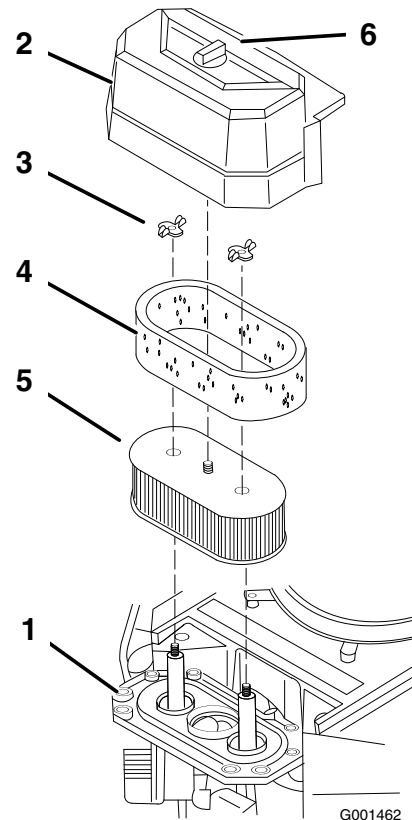

Figure 23
3. Clean around the air cleaner to prevent dirt from getting into the engine and causing damage (Figure 23).
4. Unscrew the cover knob and remove the air cleaner cover (Figure 23).
5. Remove the 2 wing nuts and remove the air cleaner assembly (Figure 23).
6. Carefully pull the foam element off the paper element (Figure 23).
1. Do not clean the paper filter. Replace it after 200 operating hours (Figure 23).
1. Carefully slide the foam element onto the paper air cleaner element (Figure 23).
- Place the air cleaner assembly onto the air cleaner base and secure it with the 2 wing nuts (Figure 23).
- Place the air cleaner cover into position and tighten the cover knob (Figure 23).